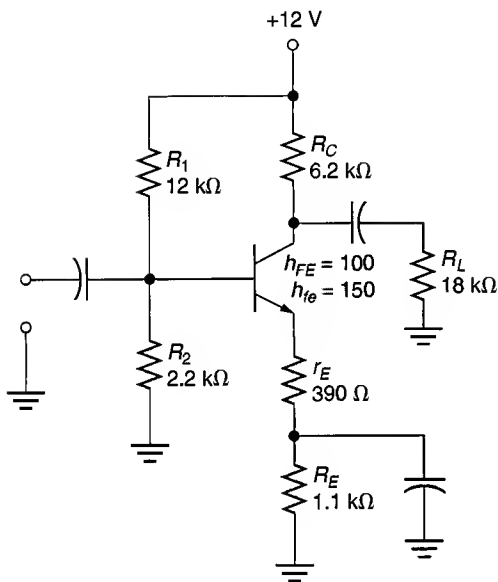

FIGURE 9.35
50. Determine the value of A_v for the amplifier in Figure 9.35.
53. Determine the values of $Z_{in(base)}$ and Z_{in} for the amplifier shown in Figure 9.35.